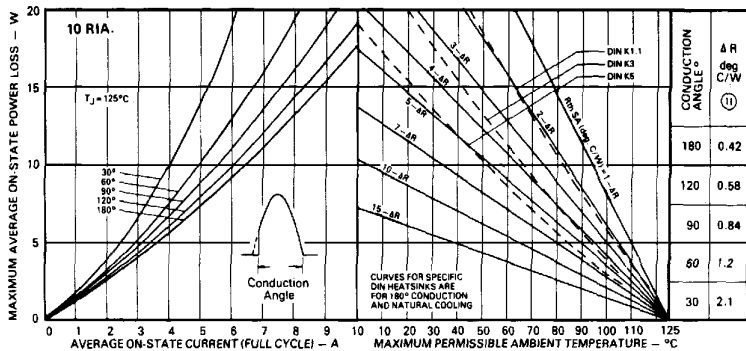

Fig. 1 - Continuous Current Rating Nomogram
① To determine required heatsink thermal resistance (R_{thSA}) in deg C/W use value of ΔR appropriate to conduction angle stated in table and substitute in formula $R_{thSA} = X - \Delta R$, e.g. for 10RIA at 180° conduction angle, 7.6A, and 60°C ambient temperature $R_{thSA} = 3 - 0.42 = 2.58$ deg. C/W (figs. 1 & 2)